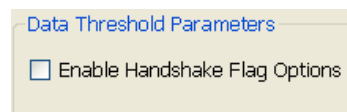
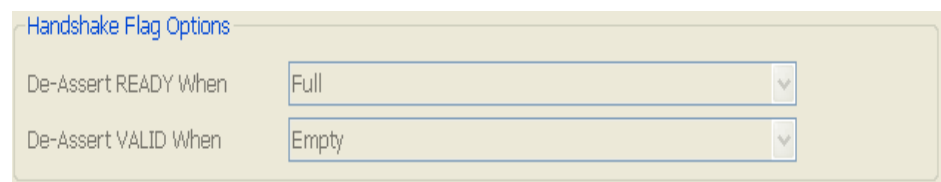

Figure 10-15: AXI4-Stream Interface FIFO: Page 4 - Data Threshold Parameters
Figure 10-16: AXI4-Stream Interface FIFO: Page 4 - Programmable Flag Options
- The programmable flags (Programmable Full and Programmable Empty) are mapped to TVALID and TREADY depending on the Enable Handshake Flag Options and Handshake Flag Options selection on Page 4 of the AXI4-Stream FIFO GUI, as shown in Figure 10-15 and Figure 10-16.